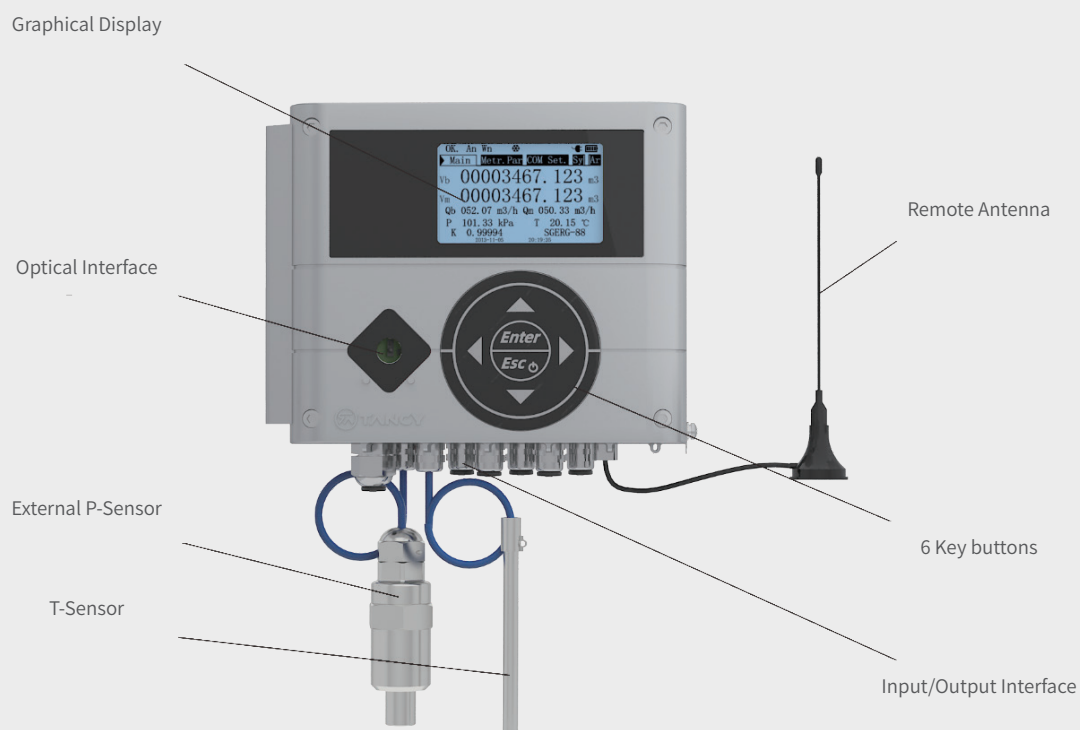

Figure 2 TEC appearance and structure
- Components in upper cover of the device include processor board, LCD module and touch key panel, all protected by upper cover and metrological lock switch; the processor board consists of processor, memory, interfaces with LCD display, 6 button keyboard, optical communication interface and Bluetooth module. See Figure 2.